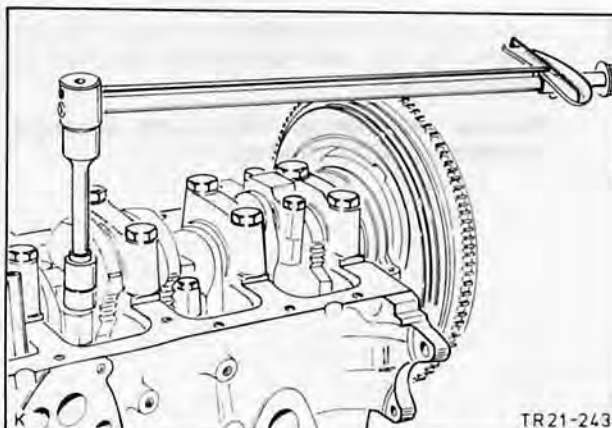

Fig. 63. Torque connection rod bolts as specified in Technical Data
52. Fit big end bearing cap complete with oiled bearing shell. Torque connecting rod bolts as specified in Technical Data, Fig. 63.